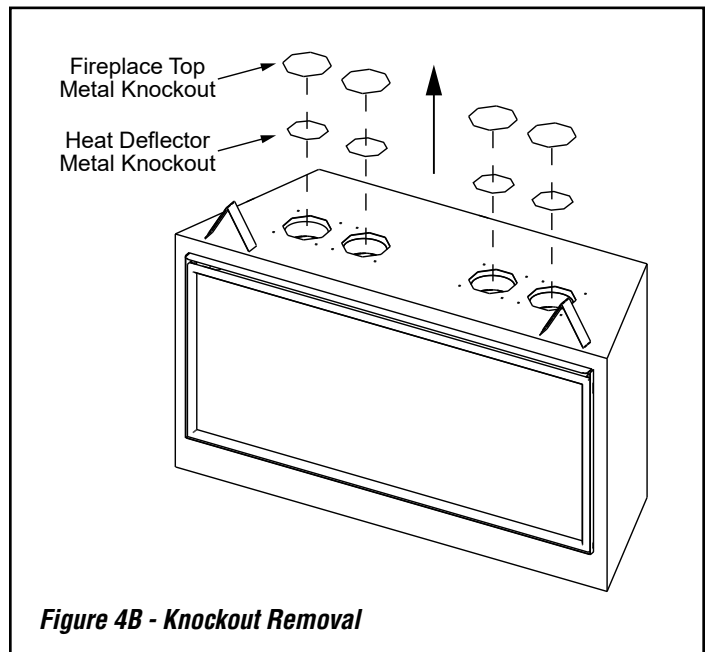

Figure 4B - Knockout Removal
- 1b. Using a pair of tin snips, remove four knockouts in fireplace top and discard (**Figure 4B**).
- 2b. Remove four knockouts from inner heat deflector (**Figure 4B**).